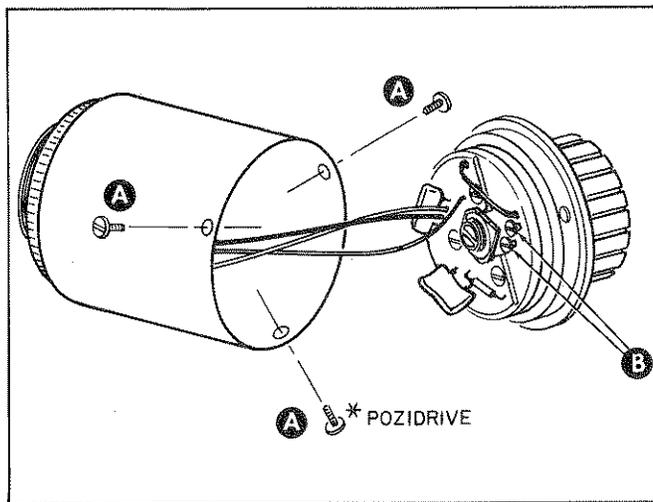

Figure 8. Thermistor Compensation
68. Refer to Figure 8 and proceed as follows:
- a. Remove the three screws (A).